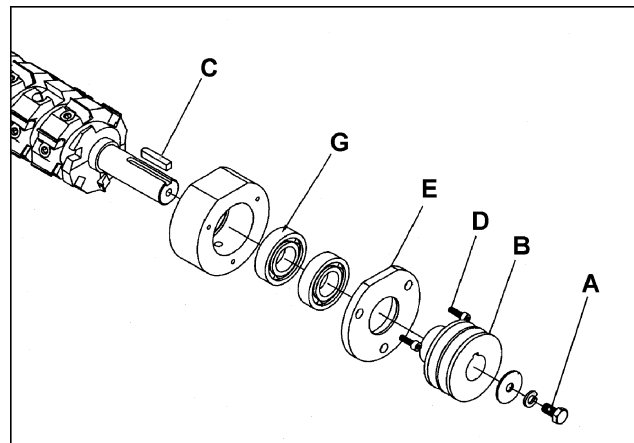

FIGURE 26
7. Loosen lock screw (A-Fig. 26) and remove pulley (B-Fig. 26) and key (C-Fig. 26).
8. Take down screws (D-Fig. 26) on both sides and remove bearing cap plates (E-Fig. 26).
IMPORTANT: If the bearings (G-Fig. 26) need replacement, Powermatic strongly recommends this be done by qualified service personnel. The bearings are press fitted and must be removed with an arbor press.